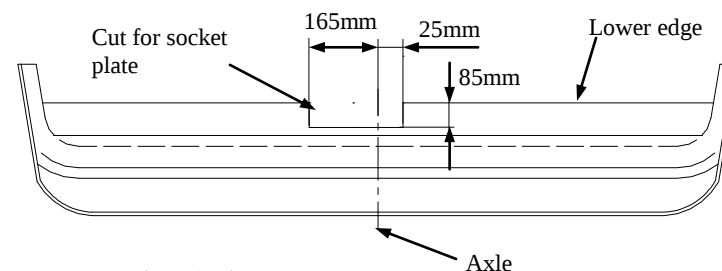

Fig. 2 Bumper cut out (top view)
3. Slide the main bar (pos. 1) into the chassis and then fix with M10x40mm bolts (pos. 5) and big washers $\varnothing 30 \times 10,5 \times 2,5$ mm (pos. 8) from the towbar equipment. Choose holes depend on car type.
5. Position the ball of towbar fix with M12x70mm bolts (pos. 4) from the towbar accessories.
6. Fix the socket plate (pos. 3) as shown on the drawing.
7. Cut the bumper according to figure 2 and mount it to the car.